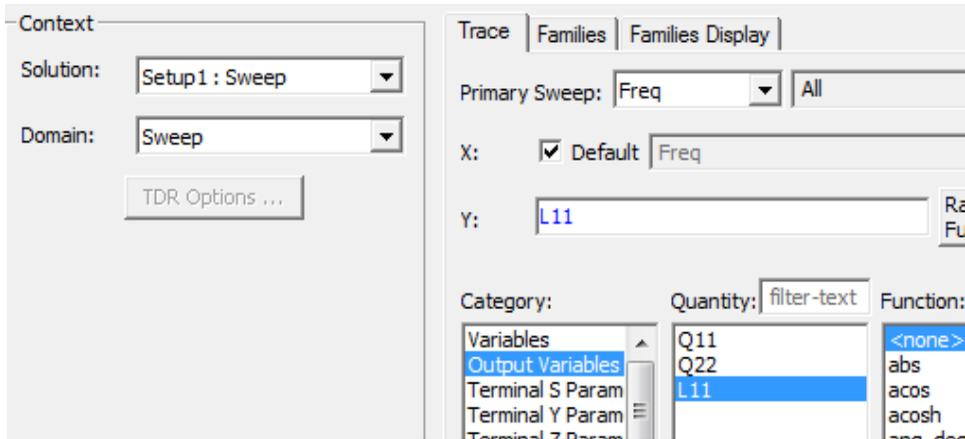

Figure 19. Report dialog box
- 7 Edit the fields in **Report** dialog box as shown in Figure 19.